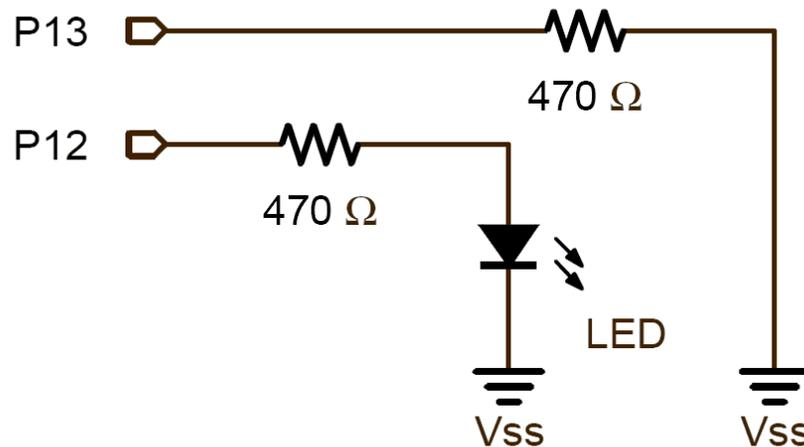
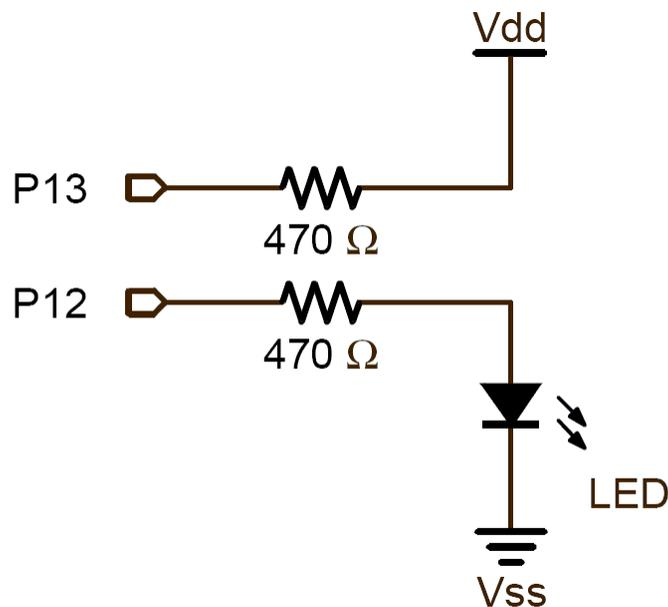

Figure 16: Closed Security Mode Circuit Diagram
Figure 17: Open Security Mode Circuit Diagram
2. **Assemble** the **circuit** shown in Figure 16 on the Board of Education breadboard.
The application waits for the Stamp I/O line P13 to be pulled high as shown in Figure 17. Once line P13 is high, the eb500-SER module goes into a more vulnerable mode; it becomes visible and switches to open security enabling new trusted relationships. When in open security mode, the LED will blink. By pulling P13 low again as shown in Figure 16, the eb500-SER will return to closed security mode and visibility will be turned off.
3. Pull Stamp I/O line **P13 high** on the **Board of Education** board by implementing the circuit shown in Figure 17.